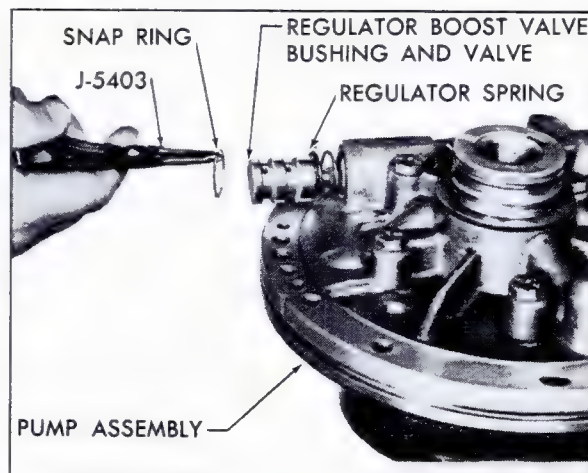

Fig. 7-69 Removing Pressure Regulator Valve Snap Ring
2. Compress regulator boost valve bushing against pressure regulator spring and remove snap ring using Snap Ring Pliers J-5403 (#21), Fig. 7-69.